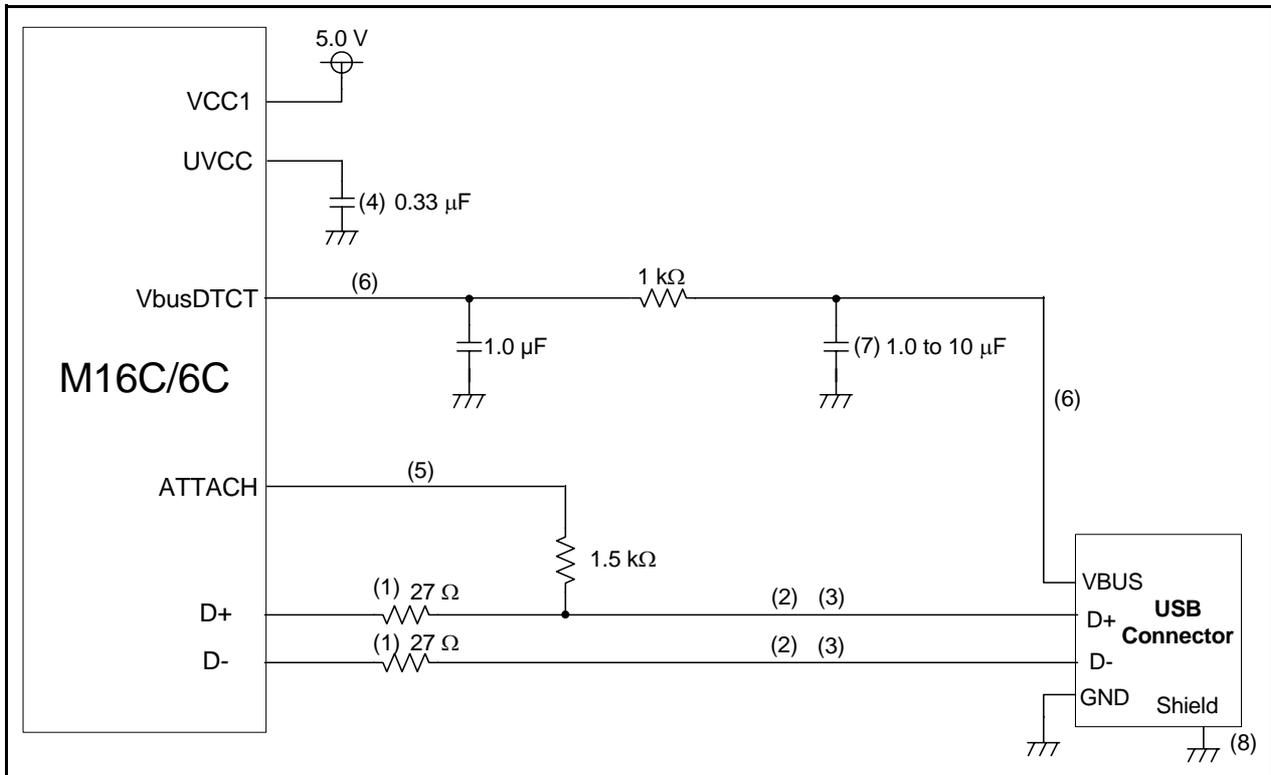

Figure 4.1 Self-powered Mode Circuit (5.0 V)
Figure 4.1 shows an example of a Self-powered Mode Circuit (5.0 V).
Note the items below when using a self-powered mode circuit (5.0 V). Numbers (1) to (8) correspond to (1) to (8) in Figure 4.1.
(1) Series resistors on D+/D- lines